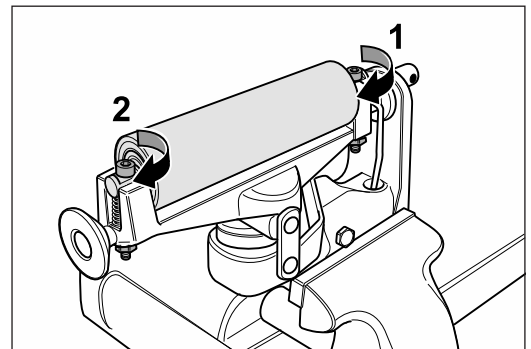
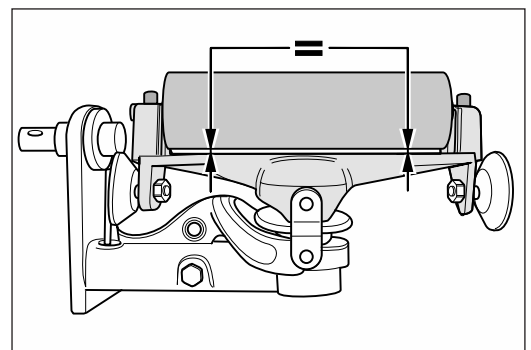

Fig. 59 Tighten the side without spring (1) and then the side with spring (2), so that ... **Similar to figure.**
Fig. 60 ... the tensioning roller is positioned parallel to the top of the drive unit. **Similar to figure.**
- 7 Tighten the screw of the unsprung bearing pedestal side (fig. 59, 1).
- 8 Turn the screw on the sprung side of the tensioning roller (fig. 59, 2) far enough so that the tensioning roller is positioned parallel to the upper part of the drive unit (fig. 60).